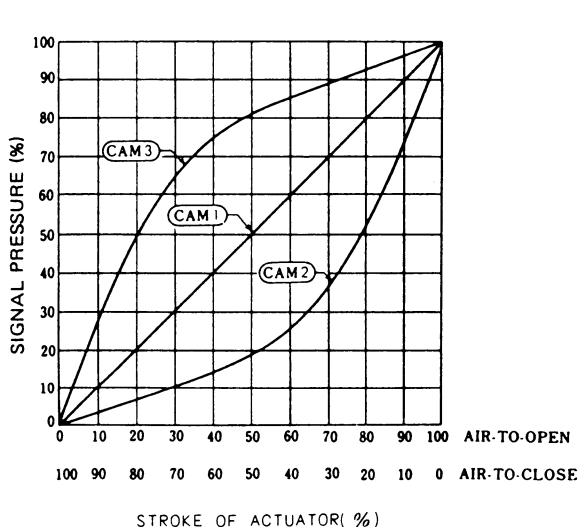

Figure 6. Cam Characteristics
- (1) Check that, when the actuator stem is set at the center position of the stroke, the positioner lever and the slide rail are mutually parallel. If they have not been correctly installed, adjust them referring to Section 4 "INSTALLATION."
- (2) Select a cam of the required characteristics (refer to Section 6 "OPERATION") and install the cam in the way that the curved cam surface which provides the required stroke is positioned in the side toward the cam follower. In this case, the arrowhead direction of the cam (the side toward the cam follower) should conform with the moving direction of the actuator stem when the pneumatic control signal is increased. For example, when both positioner and actuator are of the direct action type, the actuator stem will move downward the pneumatic control signal increases from 0.2 kgf/cm2 to 1.0 kgf/cm2. In the case of this example, install the cam in such way that the arrowhead side of the cam (the side toward the cam follower) is directed downward. (See Figure 6.)
- (3) Move the travel pin to the point for the required stroke referring to the figures (unit in mm) marked on the positioner lever and fix the travel pin at this point.
- (4) Set the pneumatic control signal at the starting pressure of the actuator (typically, at 0.2 kgf/cm2) and adjust the spring adjuster so that the actuator stem starts moving with this pressure.
- (5) Set the pneumatic control signal at the full-stroke pressure of the actuator (typically, at 1.0 kgf/cm2) and read the stroke. If the stroke is insufficient, move the travel pin rightward; if it is too large, move the pin leftward.
- (6) Repeat the procedures of (4) and (5) so that the actuator stroke becomes within the allowable range for the full range of the pneumatic control signal.